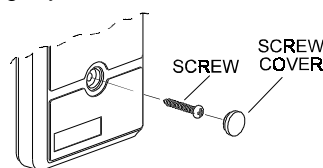
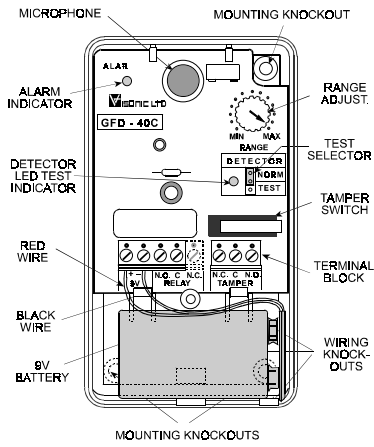

Figure 1: Front Cover Assembly
Figure 2:GFD-40C, Cover Removed
Open the case by removing the screw cover (if fitted) and screw from the front cover (see Fig. 1) Mount the unit on a stable surface (wall or ceiling) using the 3 mounting knockouts see Fig. 2.
- To route the wires into the sensor, use one of the wiring knockouts - see Figure 2.
All sounds affecting the detector can be monitored and displayed by the LED marked 'DETECTOR', using the test selector (Fig. 2). The effect of individual sounds such as telephones and door chimes can be checked and adjustments made for optimum sensitivity and maximum immunity from false Alarms.
When you are satisfied with the adjustment, close the cover. Secure the cover with the screw and install the screw cover (Fig. 1). Test the unit again, assuring good detection sensitivity.